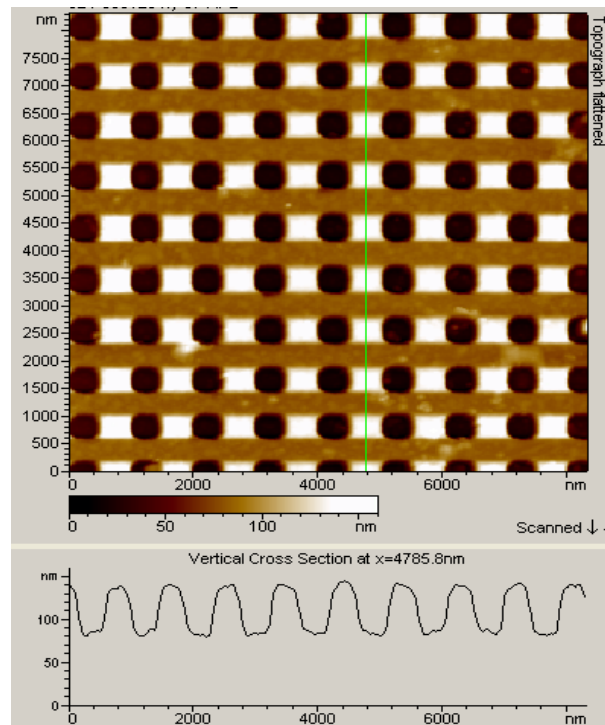
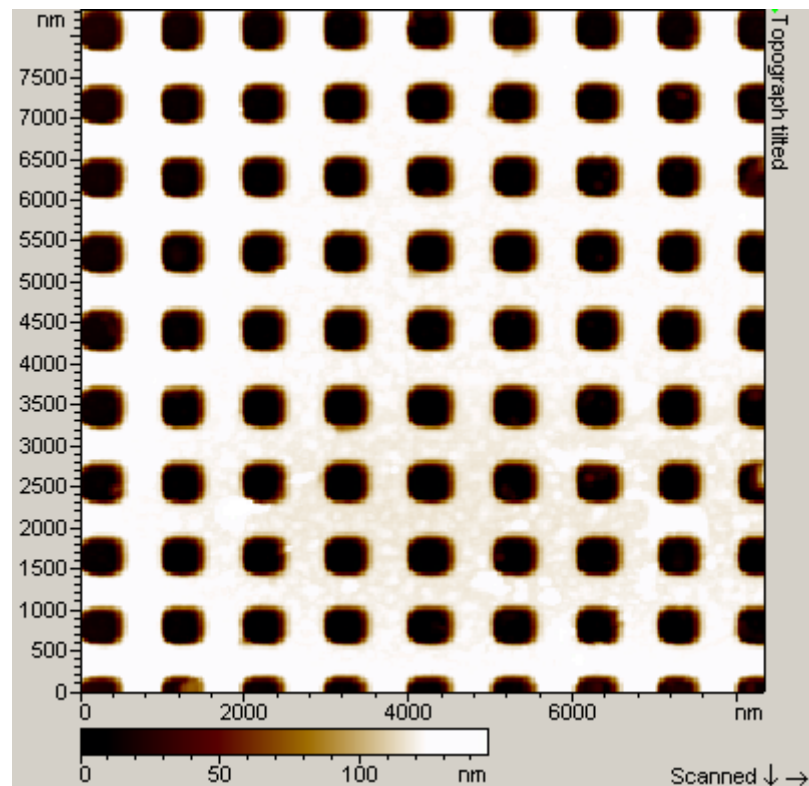

Fig. 5.3 Topographic (top) and cross-section (bottom) images of a standard grating showing the artifact introduced by flattened rendering
Fig. 5.5 Topography image of a standard grating showing the effect of tilted image rendering
- Since the flatten filter removes the Z offset between each scan line along Y direction, it can introduce an offset in the data for regions that should appear as having the same height. This can be seen in Fig. 5.3. The average of this data is still set about the middle of the Z display range in the same place that it was set in the previous figure. However it has the effect of introducing an offset in the height of regions as shown by brown and white colors. Thus, in order to make accurate cross sectional measurements after applying the flatten
- Thus when the tilted algorithm is used to display the data, instead of offsetting each line so that the average height is the same; each line will have the slope corrected and each line will be adjusted down or up by an amount that varies as a polynomial based on the order selected. This can be seen in Fig. 5.5 below. Note how the artifact introduced by the flatten rendering and shown in Fig. 5.3 is absent in this case.